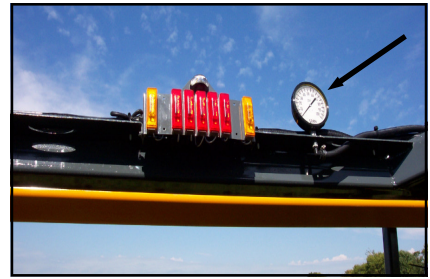

FIG. 64-1
**SOLUTION PRESSURE GAUGE**– The pressure gauge (fig. 64-1) gives you the operator a constant visual display of the amount of solution being applied (measured in PSI). The pressure, as determined by the pulse width modulated control valve, will vary according to ground speed. If applying solution manually, the solution pressure gauge visually informs the operator of needed manual adjustments. The gauge also shows when there is a drop in pressure indicating that the solution tank maybe empty or there is a problem with the system.